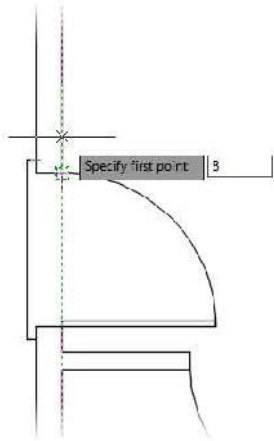

FIGURE 5.39: Setting the location for the first counter line
6. Move the cursor upward. Then enter **8.↵ (204.↵)** to start the counter line 8" (204 mm) from the corner of the jamb (see Figure 5.39).